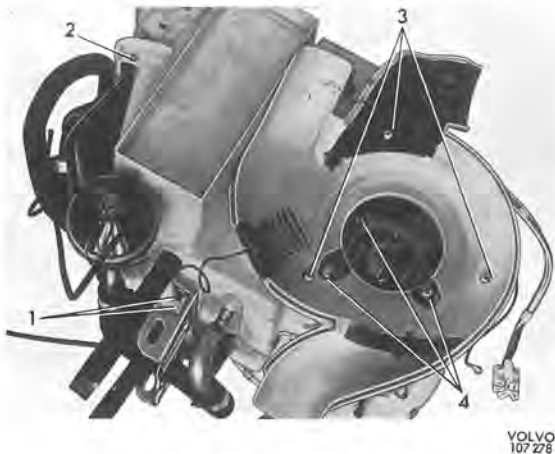

Fig. 8-62. Disassembling central unit
2. Unscrew the two left screws for the tunnel bracket (1, Fig. 8-62).